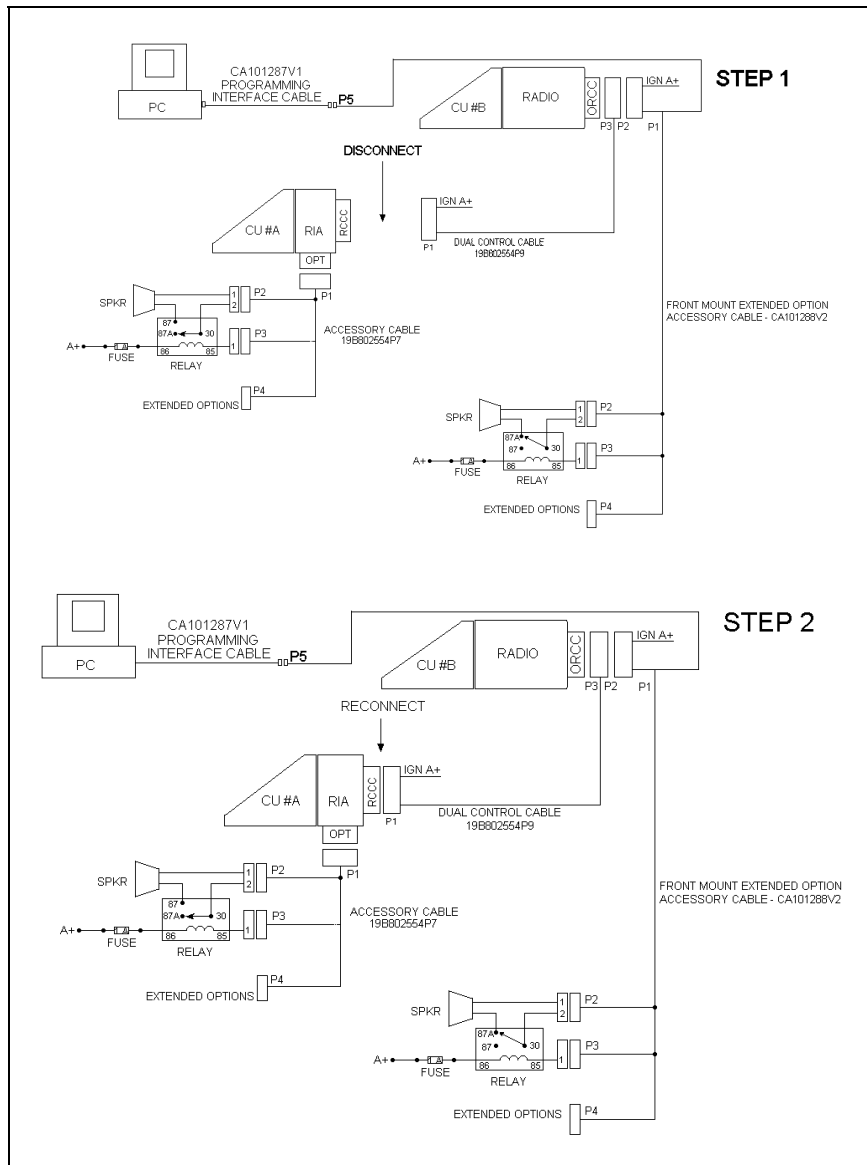

Figure 28 – M7100^{IP} Field Programming – Dual Control Unit Front/Remote Mount Configuration
Refer to Figure 28 for the Parallel Audio Setup Installation. Perform the following steps to install parallel audio speakers:
1. Configure the M7100^{IP} Front Mount Radio and the Auxiliary Control Unit per the ProGrammer setup as shown in Figure 28, Step 1 with Control Unit A disconnected. Program the radio with the control configurations shown in Step 1 of “Pre-Installation Programming Procedure with ProGrammer – Front Mount” and adjust as necessary for the specific application.
2. Now configure the Front Mount Radio and Auxiliary Control Unit per ProGrammer setup as shown in Figure 28, Step 2 with Control Unit A reconnected. Program the configurations shown in Step 2 of “Pre-Installation Programming Procedure with ProGrammer – Front Mount” and adjust as necessary for the specific application.